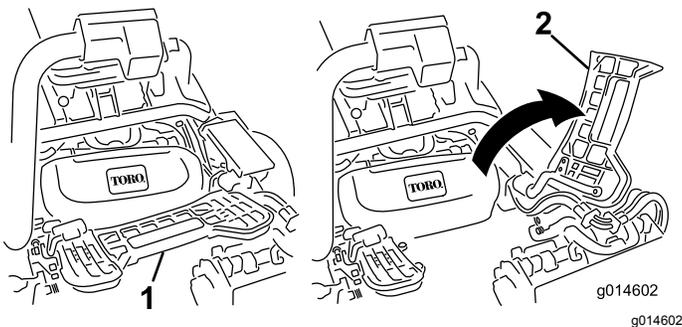

Figure 42
1. Lift up on the footrest and swing it open, allowing access to the center cutting unit position (Figure 42).